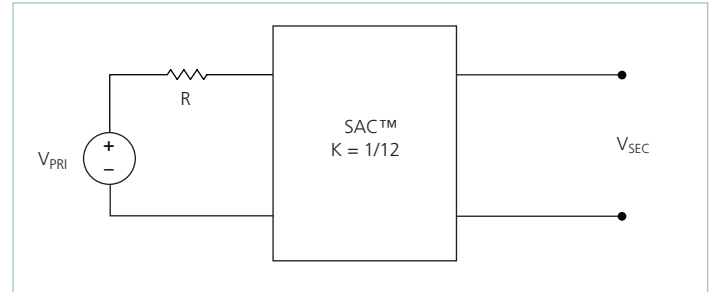

Figure 18 — $K = 1/12$ Sine Amplitude Converter™ with series primary resistor
The use of DC voltage transformation provides additional interesting attributes. Assuming that $R_{SEC} = 0\Omega$ and $I_Q = 0A$, Eq. (3) now becomes Eq. (1) and is essentially load independent, resistor R is now placed in series with V_{PRI} as shown in Figure 18.
Assuming that $R = 1\Omega$, the effective R as seen from the secondary side is $6.9m\Omega$, with $K = 1/12$ as shown in Figure 18.